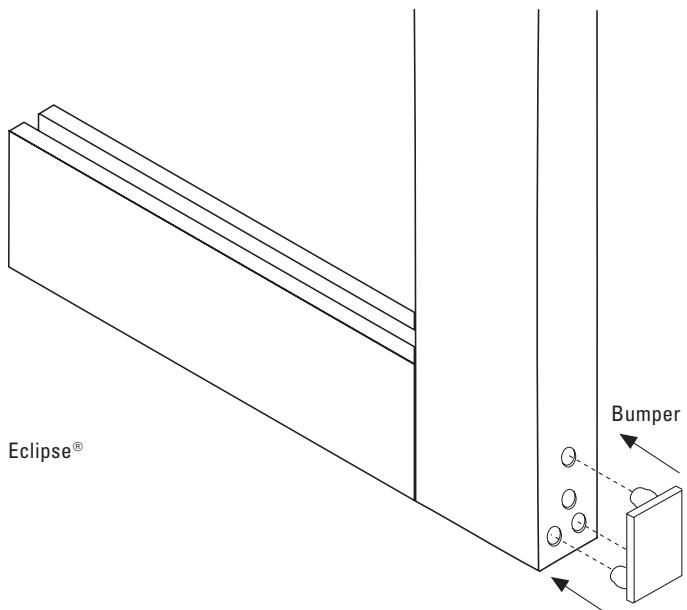

Figure 8
B. For **Eclipse®**, peel the paper off the back of the Bumpers. Insert the top and bottom Bumpers by aligning the holes and firmly pressing them into place (See **Figure 8**).